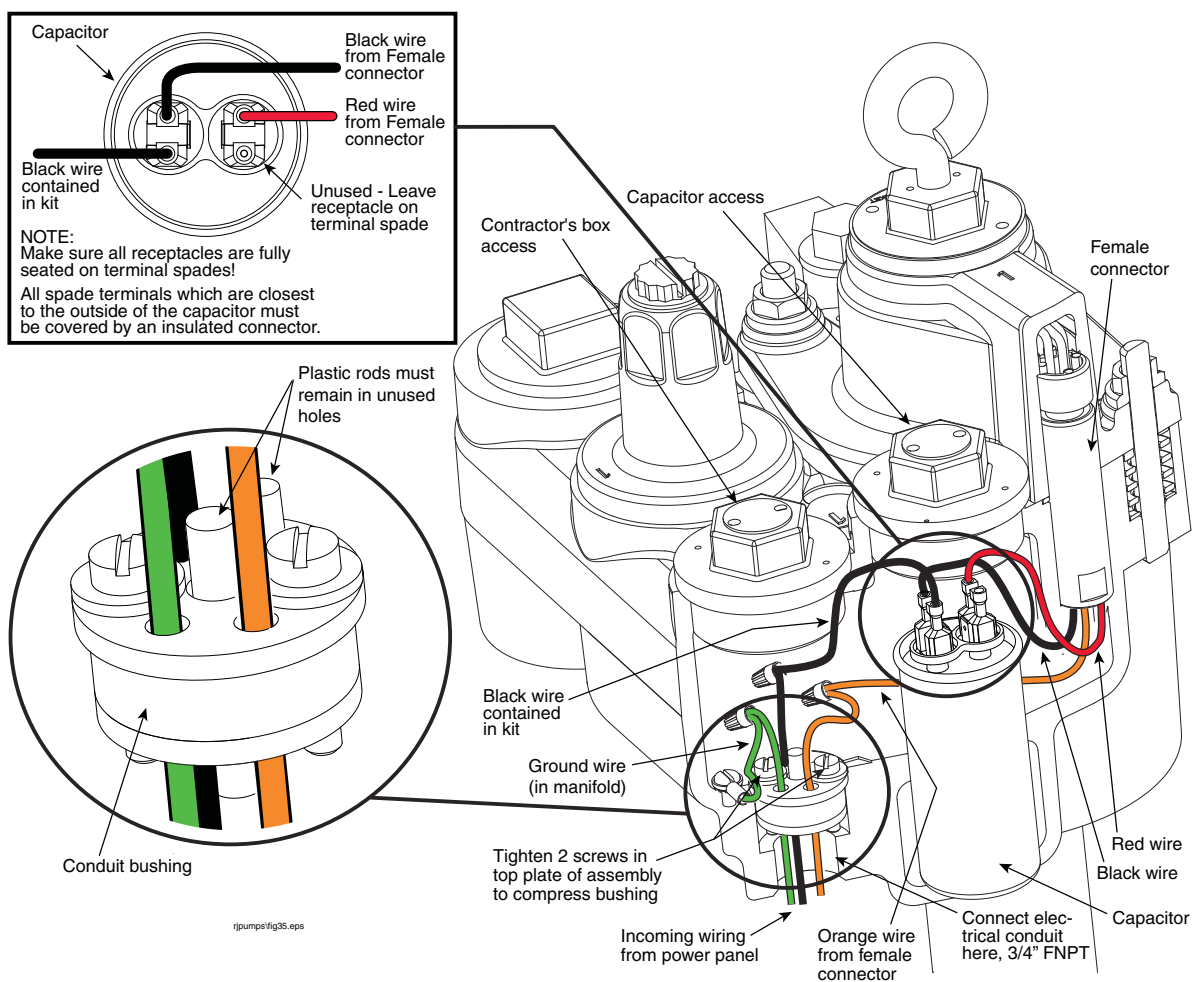
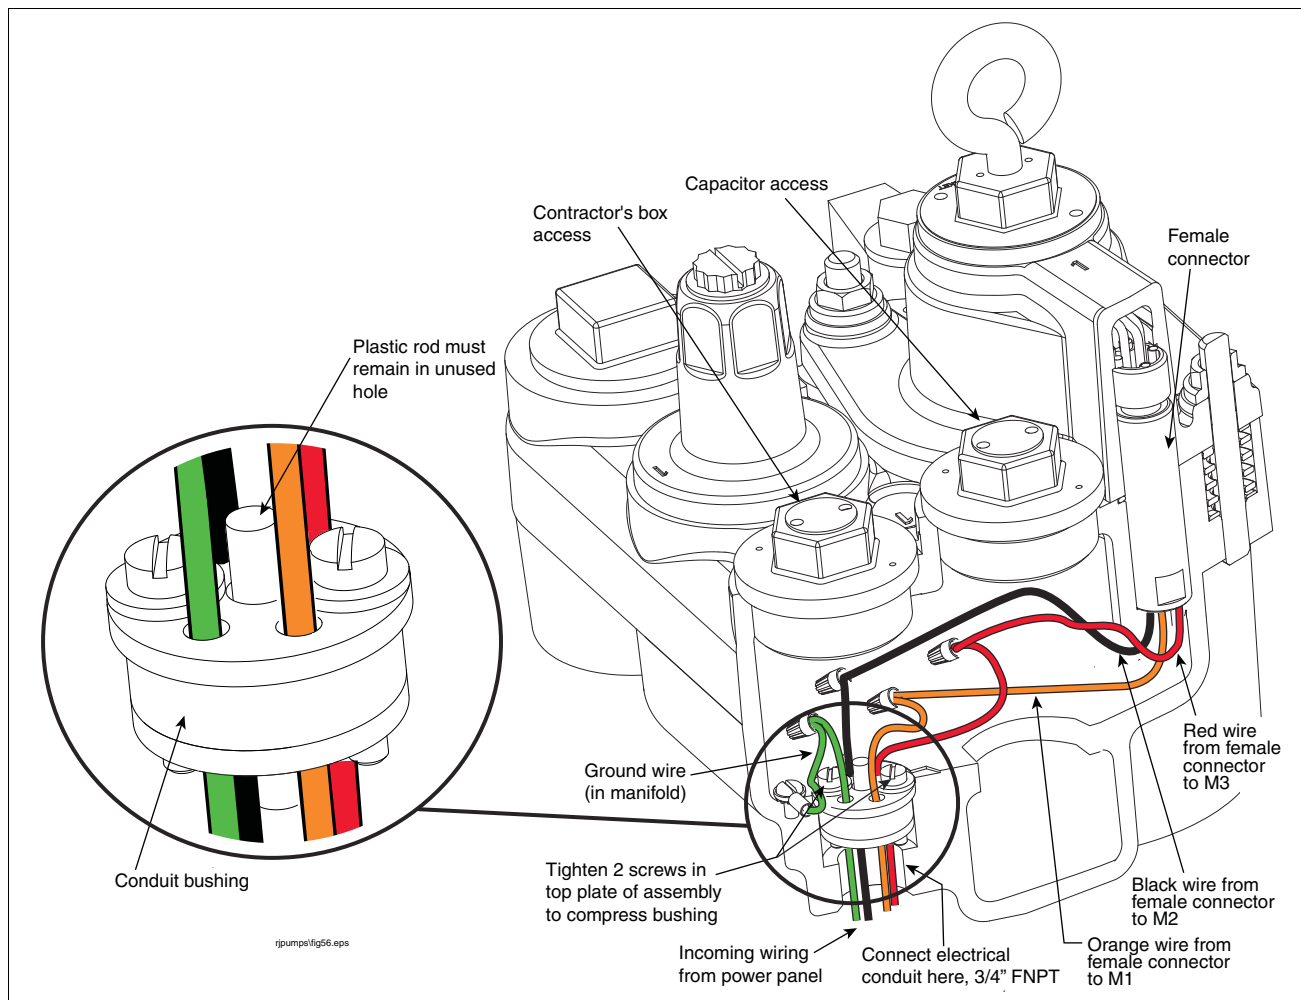

Figure 15. Power Wiring Enters Through Compression Bushing - Single Phase Example Shown
Figure 23. Power Wiring Enters Through Compression Bushing - Three Phase Example Shown
1. Connect electrical conduit approved fittings to power wiring entry at base of manifold's contractors box (see cutaway example in Figure 15 for single phase power wiring or Figure 23 for three phase power wiring).
2. Loosen the two screws in the compression bushing just enough so you can remove the bushing from its socket in the bottom of the manifold's contractor box (see Figure 15). Continue lifting up the bushing until it is accessible. Notice that the top plate of the bushing assembly (facing into the manifold) has a larger diameter than the bottom plate, and that there are two open holes and three holes with plastic rod inserts. The plastic inserts seal the bushing and must remain in any unused hole. For example, bringing three wires from the power panel, use the two empty holes and remove and discard one of the two smaller diameter plastic inserts for the third wire. Push each of the incoming power wires through the empty holes in the bushing assembly. Slide the bushing assembly down over the power wires until it seats in its socket in the base of the manifold's contractor box and then tighten the two screws in bushing assembly securely to compress the bushing and seal the wiring entry.
See Figure 23 for Steps 1 - 5.